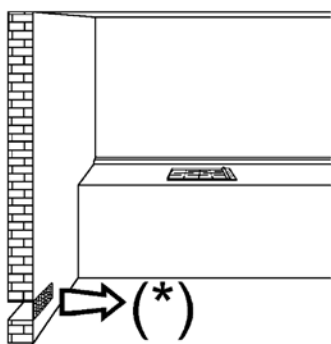
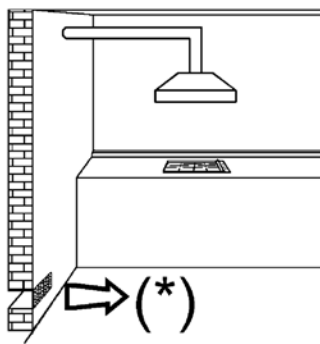
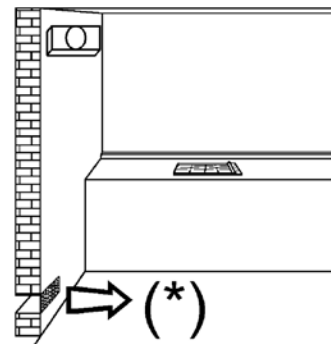

FIG. 3
FIG. 4
FIG. 5
*Use of a gas cooking appliance produces heat and moisture in the room in which it is installed. The room must therefore be well ventilated by keeping the natural air vents clear (fig. 3) and by activating the mechanical aeration device (suction hood or electric fan fig. 4 and fig. 5).*
It is essential to ensure that the room in which the appliance is installed is permanently ventilated in order to allow the appliance itself to operate correctly. the necessary amount of air is that required for regular gas combustion and ventilation of the relative room, the volume of which must not be less than 20 m3. Air must naturally flow through permanent openings in the walls of the room in question. These openings must vent the fumes outdoors and their section must be at least 100 cm2 (see fig. 3). Construction of the openings must ensure that the openings themselves may never be blocked. Indirect ventilation by air drawn from an adjacent room is also permitted, in strict compliance with the provisions in force.
Gas cooking appliances must always dispose of their combustion fumes through hoods. These must be connected to flues, chimneys or straight outside. If it is not possible to install a hood, an electric fan can be installed on a window or on a wall facing outside (see fig. 4). This must be activated at the same time as the appliance (see fig. 5), so long as the specifications in the provisions in force are strictly complied with.